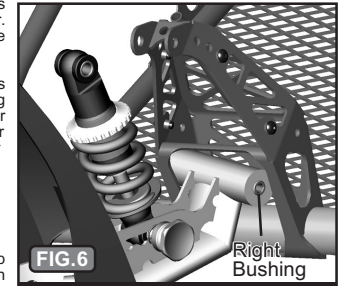

FIG. 6
**C)** To get the right side bushing inside the tower, align it with the upper right hand corner of the tower opening as shown in Fig. 6 and rotate forward. The pivot should now be inside the shock tower. You will install the pivot bolt after installing the upper shock bolt.